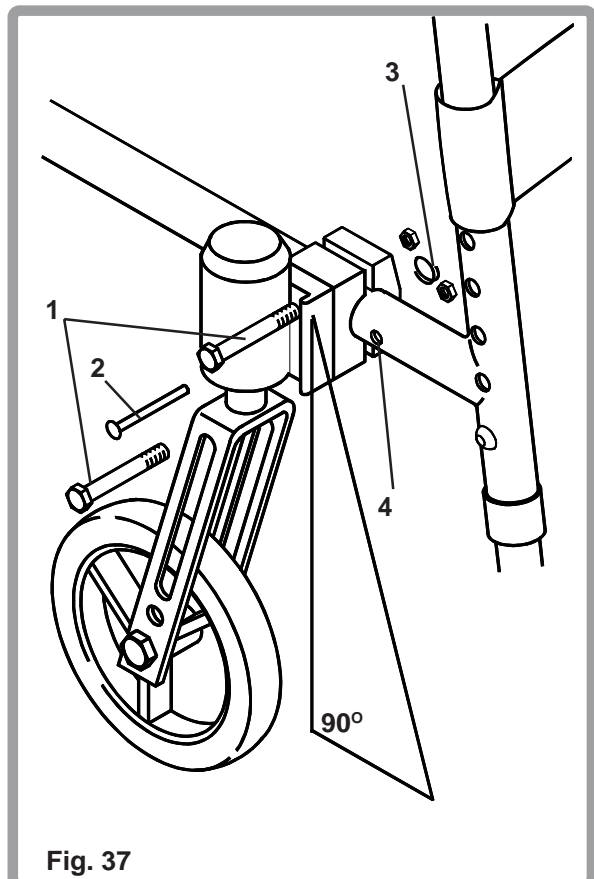

Fig. 37
Loosen the two eccentric bolts (1) sufficiently to allow the castor to slide smoothly along the frame (Fig. 37). Remove the clevis pin (2) by taking off the locking spring (3). Slide the castor plate forward, or backward and insert the clevis pin into one of three pre-drilled frame holes (4) and replace the clevis pin locking spring. Follow the instructions for castor angle adjustment given above.